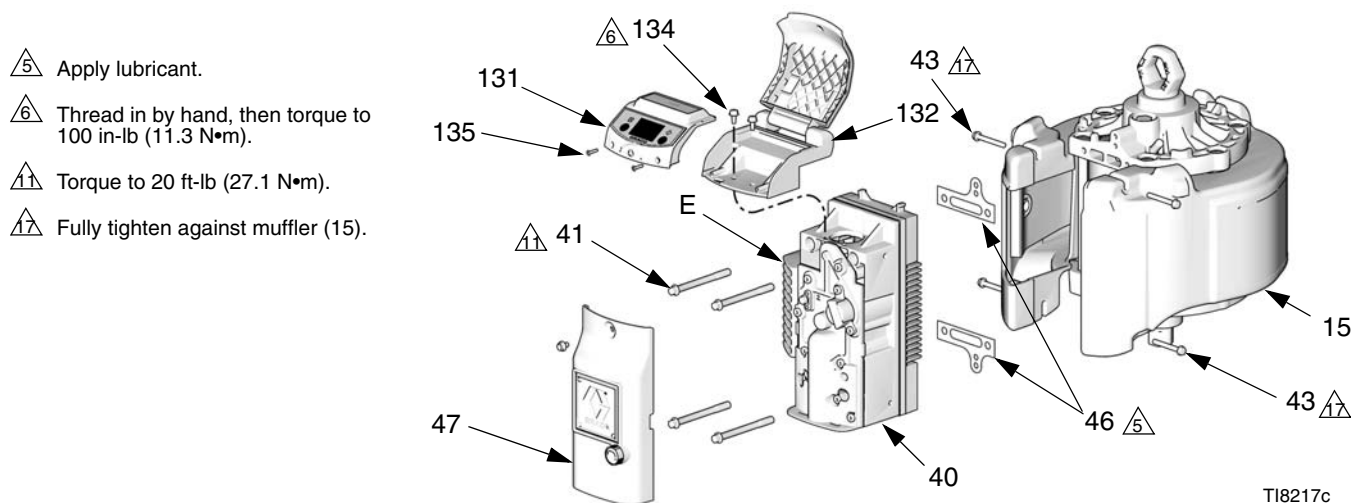

FIG. 9. Remove the Air Valve (Model Shown with DataTrak Module)
4. See FIG. 9. Remove the outer valve cover (47).
- a. **DataTrak Models:** Remove the two screws (135). Carefully remove the DataTrak module (131), see page 14. Disconnect the runaway solenoid and sensor cables from the module board. Remove the two screws (134) and carefully slide the housing (132) off the air valve.
7. See FIG. 9, page 19. Lubricate the gaskets (46) and ensure they align with the holes at the back of the air valve. Install the air valve. Install the screws (41) and torque to 20 ft-lb (27.1 N•m). Thread the screws (43) in by hand, then fully tighten them against the muffler (15).